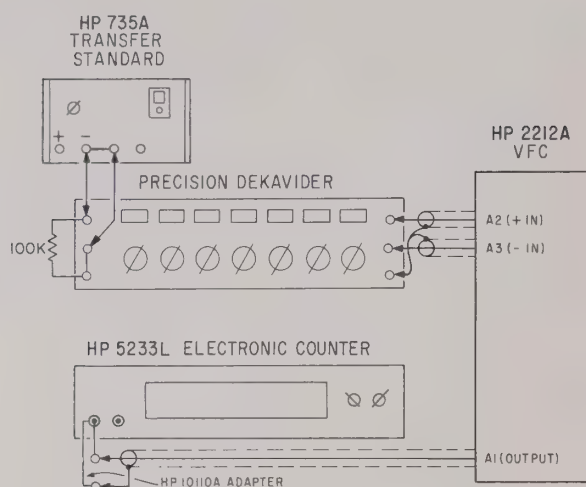

Figure 2-11B. Setup for Calibrating Other Ranges
14. Shift lead connections to the Transfer Standard one set of terminals to the right (connections shown in Figure 2-11B).